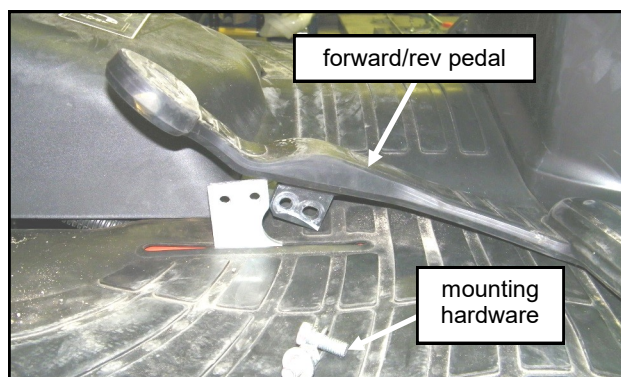

Fig. 2.2 (forward/rev pedal - right floorboard)
**2.2** Remove the hardware from forward/rev pedal, set aside the pedal and hardware. See fig. 2.2. Peel back rubber mat.